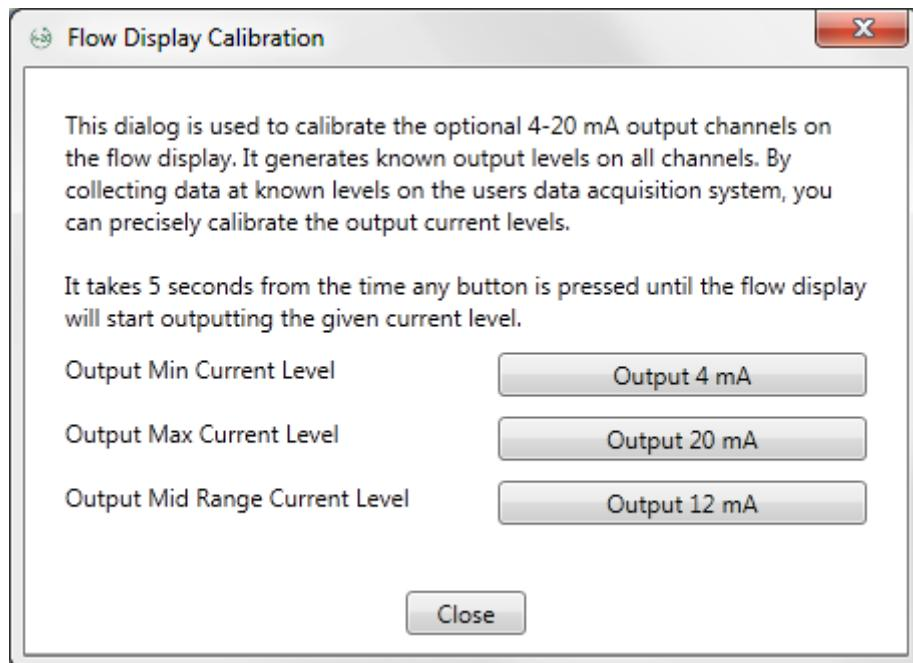

Figure 68. Flow Display Calibration
- Connect the IQ to the flow display and then to a PC. Run the IQ software and select **Advanced Utilities – 4-20 mA Calibration**. Figure 68 shows the display screen.